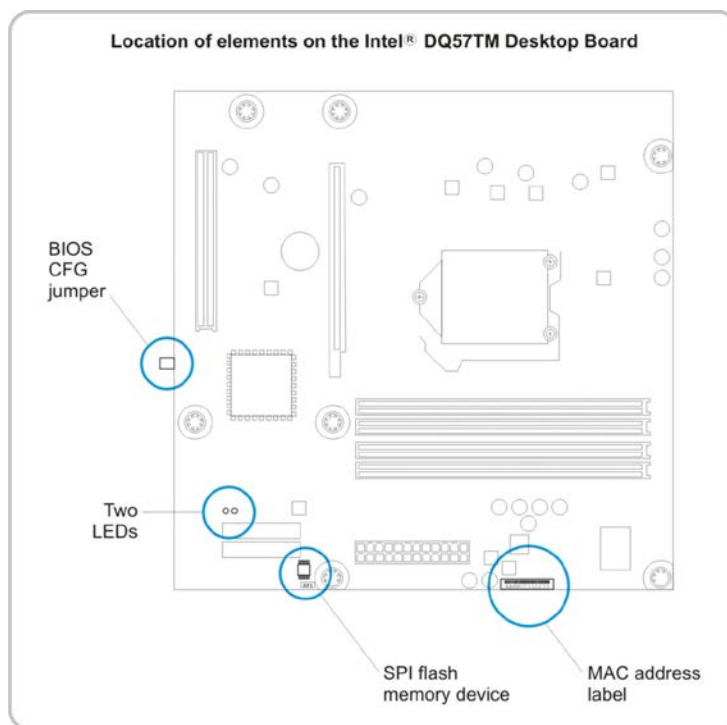

Figure 3-1. Location of BIOS CFG jumper, LEDs, SPI device, and MAC address.
Throughout this procedure, refer to Figure 3-1 for the location of the SPI flash device, the MAC address, the LEDs, and the BIOS CFG jumper.
9. Grasp the tab on the BIOS CFG jumper, carefully remove the jumper, and set the jumper aside. For detailed information about removing the BIOS CFG jumper, refer to the Intel® DQ57TM motherboard product guide. Figure 3-1 shows the location of the BIOS CFG jumper.
1. Look on the motherboard and locate the small sticker that lists the MAC address for the board. Figure 3-1 (earlier in this section) shows this location.